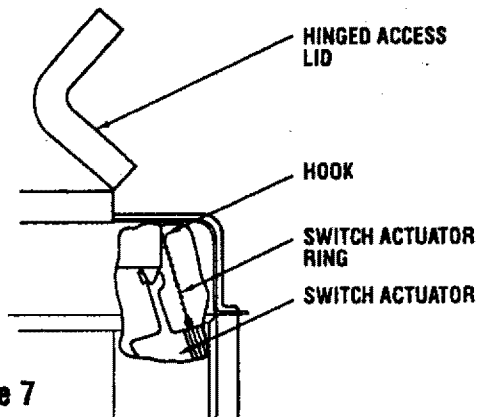

Figure 7
- (a) Loop switch actuator ring around plastic hook located directly above the switch actuator. (See Figure 7.)
When unit is dry, rotate Humidity Control to OFF and release switch actuator ring. (See Figure 7.)